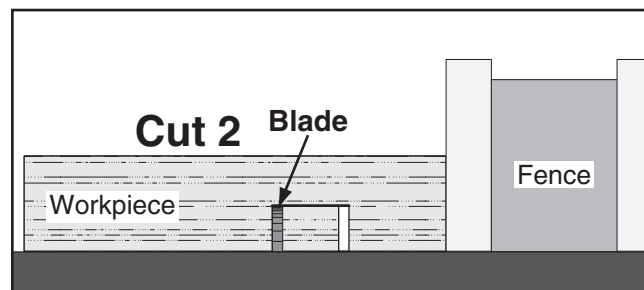

Figure 62. Second cut for a single blade dado.
7. Repeat the cutting operation on the other side of the dado channel, as shown in **Figure 62**.